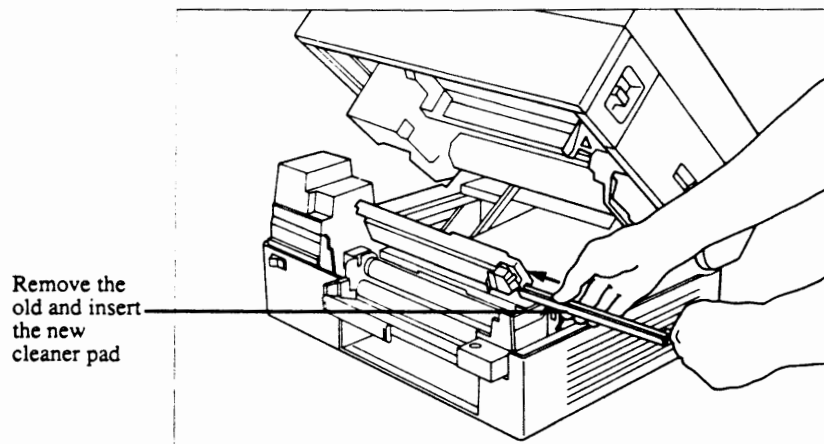

FIGURE 11
3. Raise the top of the fuser assembly and replace the fuser roller cleaner felt with a new one (Figure 11). Lower the top of the fuser assembly.